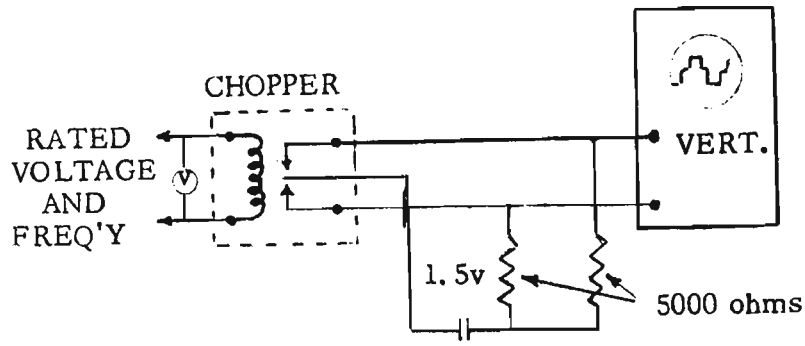

FIGURE 1
Spurious signal pickup	Check cable grounding and shielding connections. Avoid ground loops. Try omitting shield ground connection to signal source and/or to Preamplifier, shown in Instruction Manual figure 1.
1. Connect the Chopper as shown in Figure 1. Use an oscilloscope having push-pull "Y" axis input terminals.